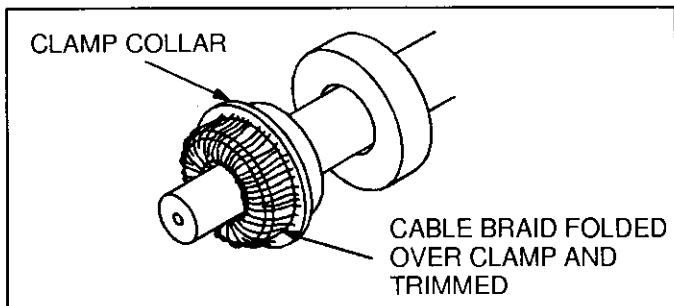

Fig. 4
3. Fold cable braid over clamp and trim it so that it is positioned against the clamp collar. See Figure 4.